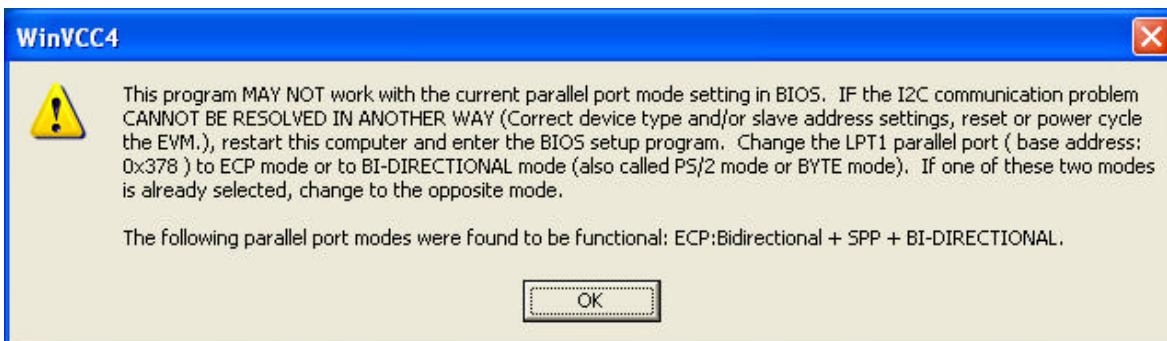

Figure 21. Corrective Action Required
- b. The dialog shown in Figure 21 appears. This dialog appears if the PC parallel port mode setting may need to be changed.